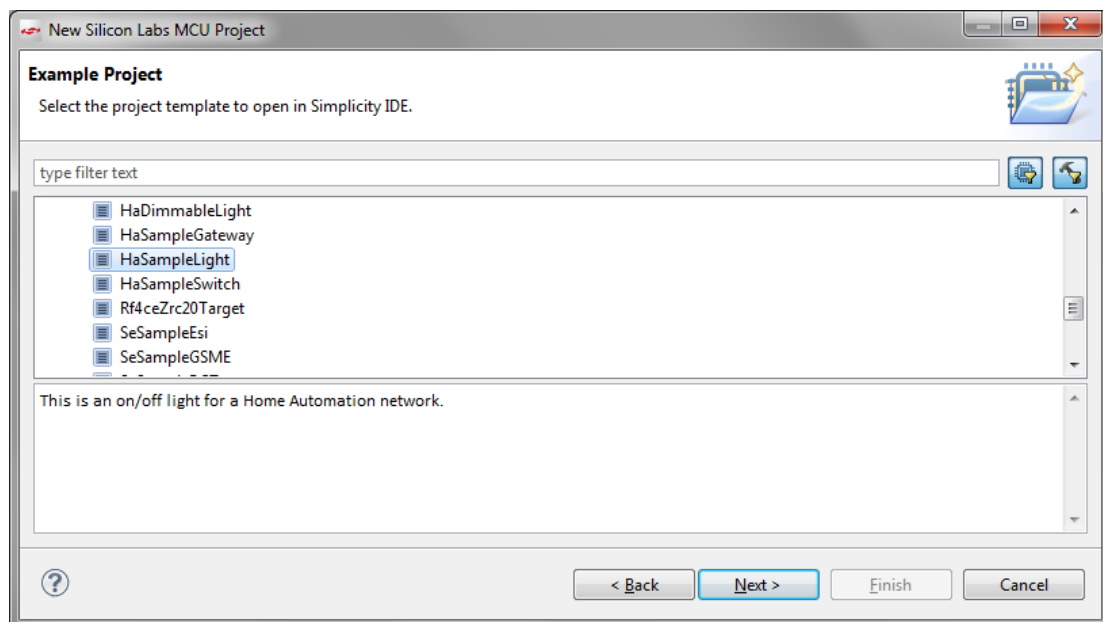

Figure 19. Example Project List
- Select an example from the list (Figure 19). For the purposes of this guide, select HASampleLight. Click **[Next >]**.